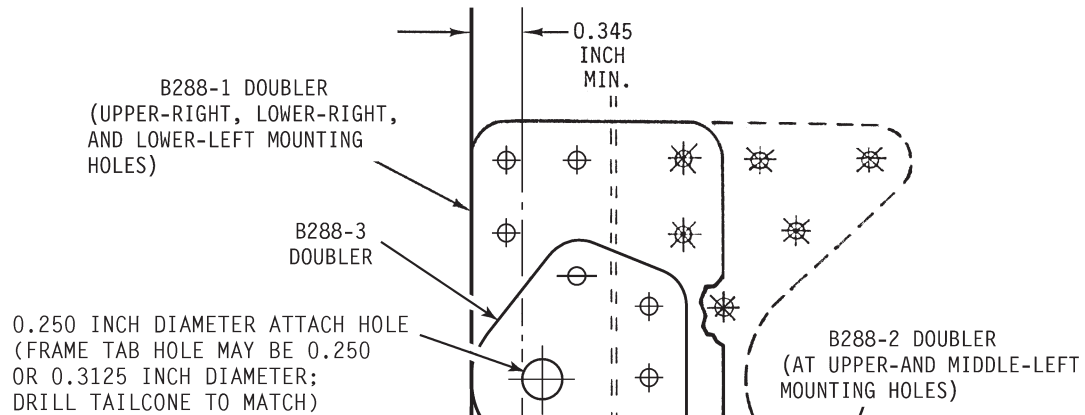

FIGURE 4-2E
2. Clamp tailcone at (3) mounting locations to prevent tailcone movement during drilling, do not clamp tailcone at frame tab on left side of tailcone.
4. Remove (1) clamp from next mounting location and back drill hole per step 3, repeat process for each clamped mounting hole.
7. Refer to Figure 4-2E and accompanying "CAUTION" statement. Center B288-1 or -2 doublers over each tailcone mounting hole and flush with tailcone forward edge. Mark doublers from inside tailcone for drilling 0.250 inch diameter hole.
8. Refer to Figure 4-2E. Drill B288-1 or -2 doubler with a 0.250 inch diameter twist drill at spot marked in step 7. Deburr hole and secure doubler to tailcone with a NAS1304-3 bolt. Drill through existing pilot holes in doubler with a #30 drill bit and secure with clecos.